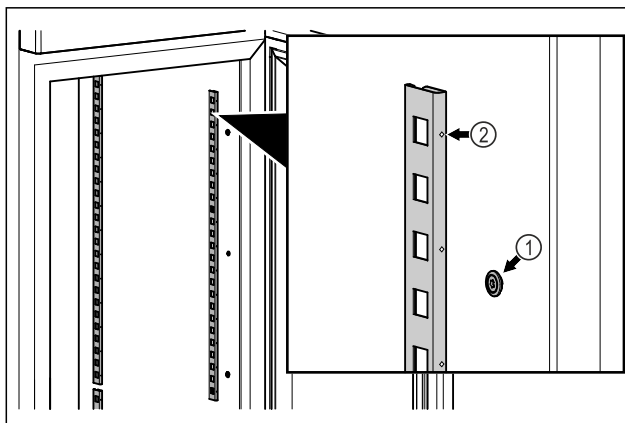

Fig. 48 Example illustration
- ▶ Hook the snap strips into the suspension *Fig. 48 (1)*. Mark *Fig. 48 (2)* must point forwards.